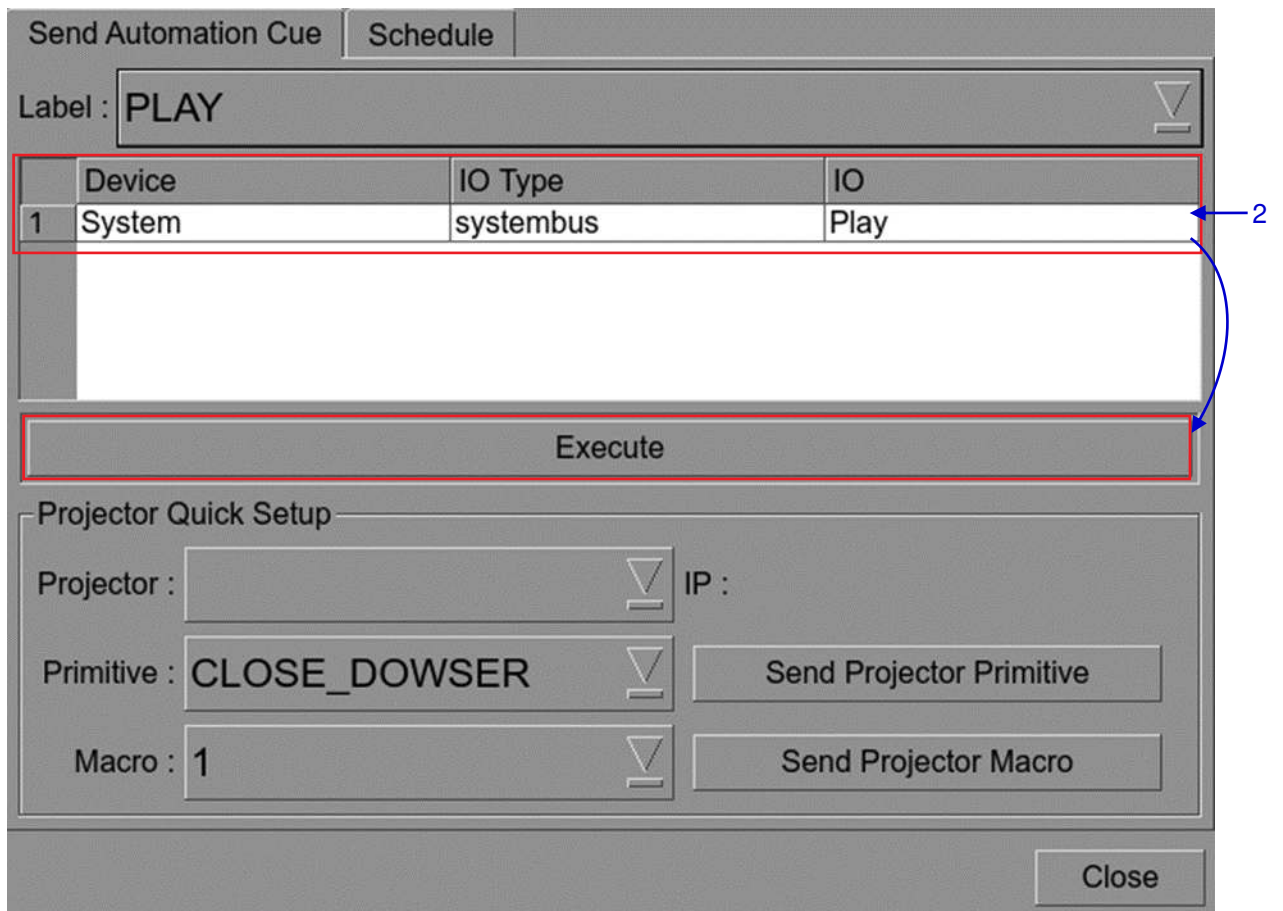

Figure 55: Executing Automation
- 1 Automation labels and LED Screen commands can now be executed from an interface on the Control Panel. Press **Automation** on the **Control Panel** to start the manual automation interface as shown in **Figure 55**.